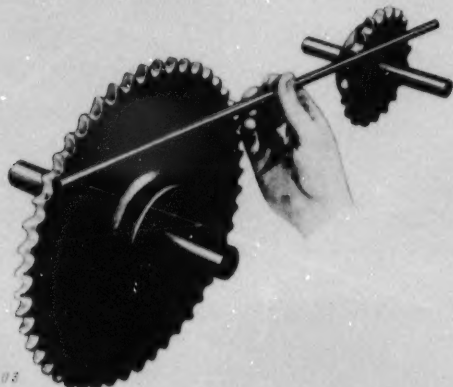

Fig. 22—Aligning The Sprockets
2. Align The Sprockets—Check the axial alignment of the sprockets with a straight edge applied to finished surfaces on the sides of the sprocket (Fig. 22). When aligned, tighten the hub set screws.
3. Install The Chain—Remove connector link and wrap the chain around sprockets, bringing the free ends together on one sprocket. Install connector link (Fig. 22), being sure to tap chain pin links back so that fasteners come up snugly against the outside of the connecting link plate.